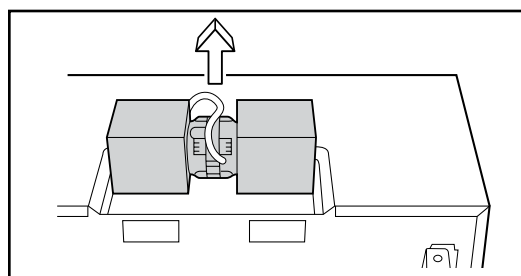

Figure 8
2. Lift Hood Fan Unit carefully and slip wires out of cavity. See Figure 8.